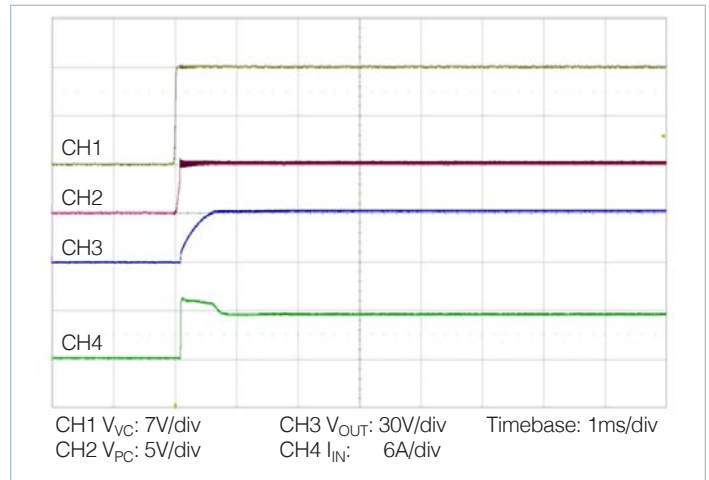

Figure 14 — Start up from application of  $V_C$ ;  $V_{IN}$  pre-applied  $C_{OUT} = 100\mu\text{F}$
- **Stand-alone operation (VC applied after  $V_{IN}$ ):** In this case the VTM output will begin to rise upon the application of the VC voltage (See Figure 14). The Adaptive Soft-Start Circuit may vary the output rate of rise in order to limit the inrush current to its maximum level. When starting into high capacitance or a short, the output current will be limited for a maximum of 1200 $\mu$ s. After this period, the Adaptive Soft-Start Circuit will time out and the VTM module may shut down. No restart will be attempted until VC is re-applied or PC is toggled. The maximum output capacitance is limited to 100 $\mu$ F in this mode of operation to ensure a successful start.